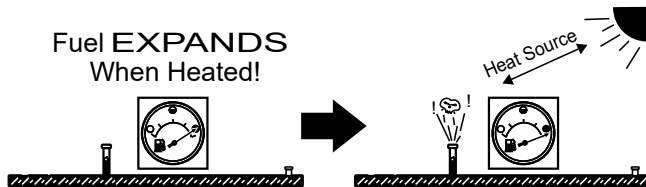

Figure 28. Fuel Expansion
**DO NOT OVERFILL** the fuel system. Leave room for fuel expansion. Fuel expands when heated (Figure 28).